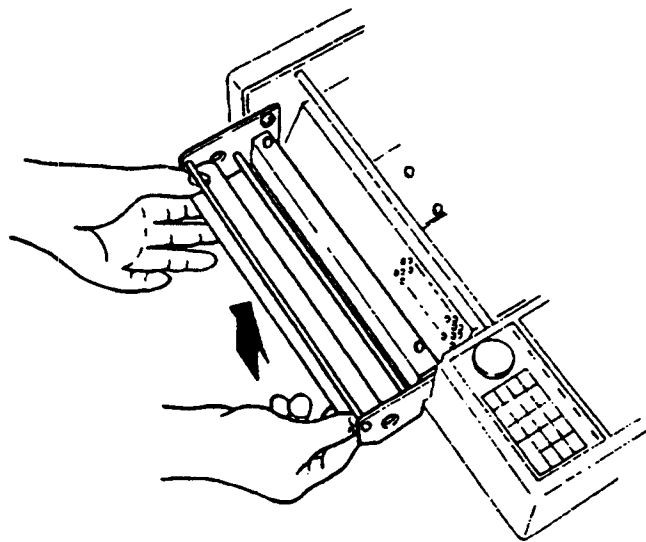

Figure 6.23
5. Mount the stock roller 4 on the chart reroll unit metal attachment from the direction shown by the arrow mark (Figure 6.23)